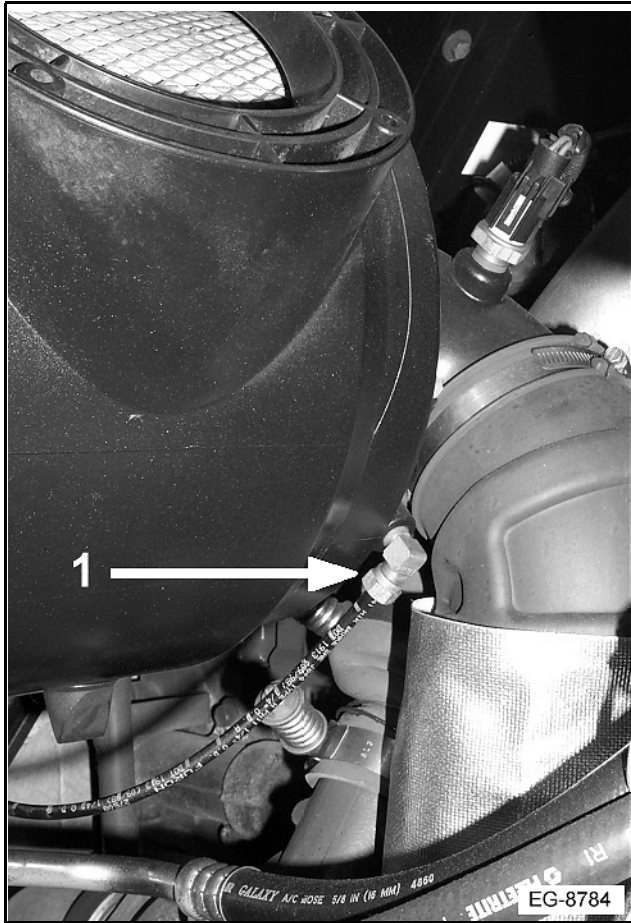

Figure 57 1. Intake Restriction Test Access Location
1. Attach the restriction test gauge to water manometer or magnehelic gauge with air cleaner housing tap. See Restriction Test (access location) (See Figure 57, page 107).